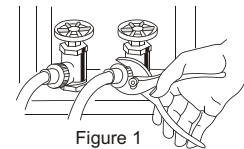

Figure 1
1. Attach the water inlet hoses to the hot water faucet and the cold water faucet. Using pliers, tighten the coupling. ( As figure 1)